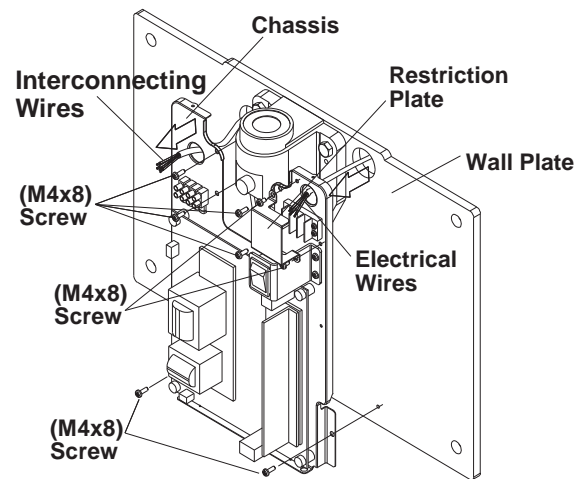

Fig. 3-6 Attaching Chassis to Wall Plate
1. Remove the restriction plate over the terminal blocks by taking out two (M 4 x 8mm) screws. (Fig.3-6)
2. Route electrical interconnecting wires and power supply wires through the access holes on chassis and mount the chassis on the arm bracket with three of four (M4 x 8mm) screws. (A screw at lower right corner should be secured with a green wire from arm at setp 6 on this page. Secure the bottom corner of chassis with two (M4 x 8mm) screws to the wall plate. (Fig.3-6)